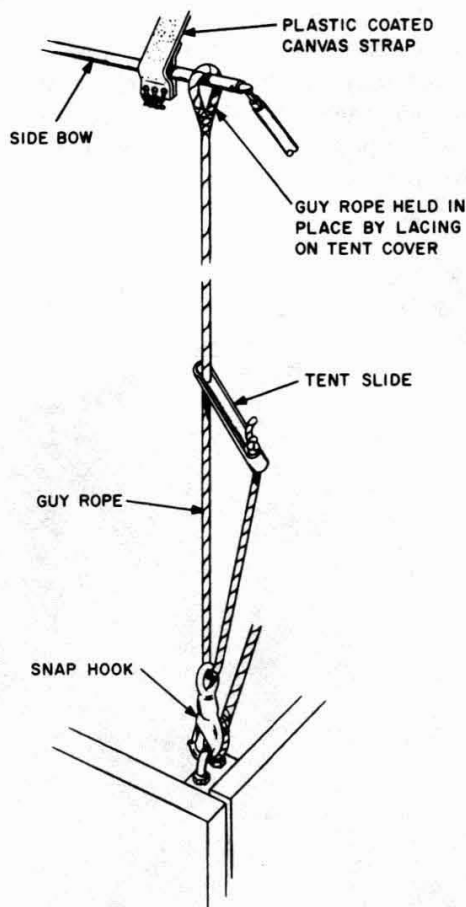

Fig. 5—Guy Rope Showing Tent Slide and Snap Hooks
2.09 Attached to each of the side bows are two guy ropes for use in anchoring the tent. Each guy rope is equipped with a tent slide (tensioning device) and a snap hook to facilitate the placing and removal of the tent. The tent slide and snap hook are illustrated in Fig. 5.